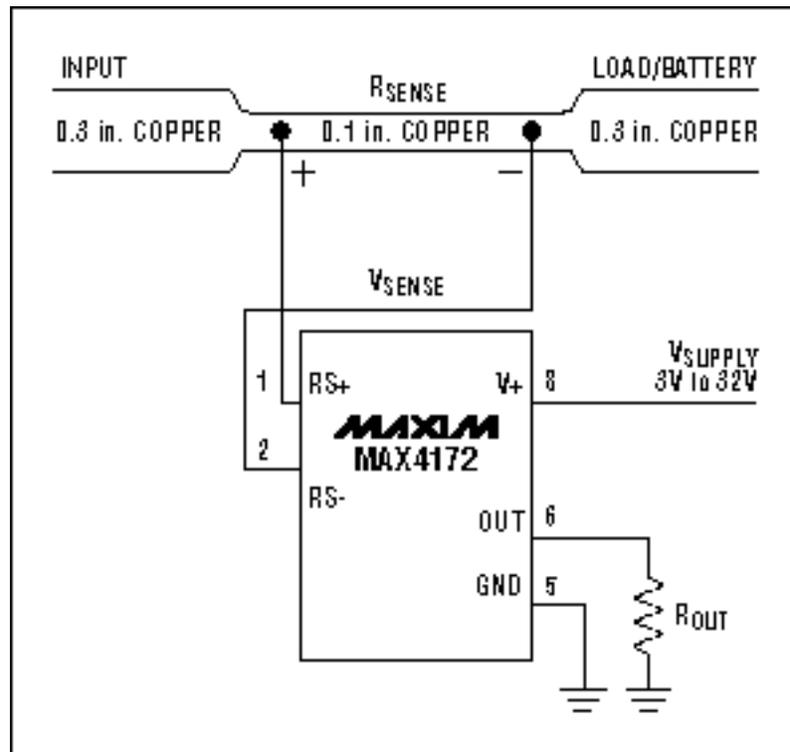

Figure 10. This high-side current monitor (MAX4172) employs a PC-board trace for R_{SENSE} .
- **Cost:** Using a PC-board trace as a sense resistor (Figure 10) is an alternative method for applications where the cost of R_{SENSE} is an issue. You will need to adjust the full-scale current value with a potentiometer because of inaccuracy in the copper resistance. The resistance temperature coefficient of copper is fairly high (approximately 0.4%/° C) in systems that undergo wide temperature variations.